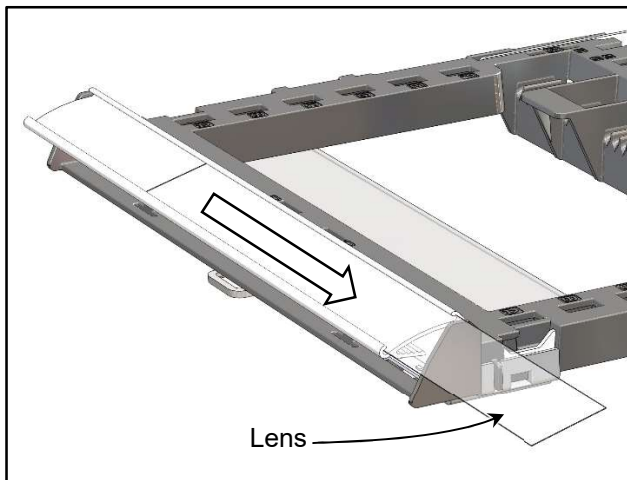

Figure 25
1. Flip up the Carrier Tray Front Cover and remove the Lens (See Figure 25).